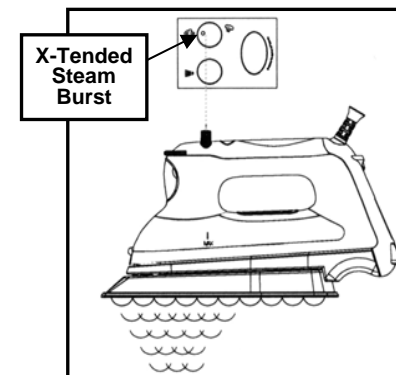

Fig. 4
3. Turn the steam button clockwise to the X-Tended steam position. (Fig. 4)